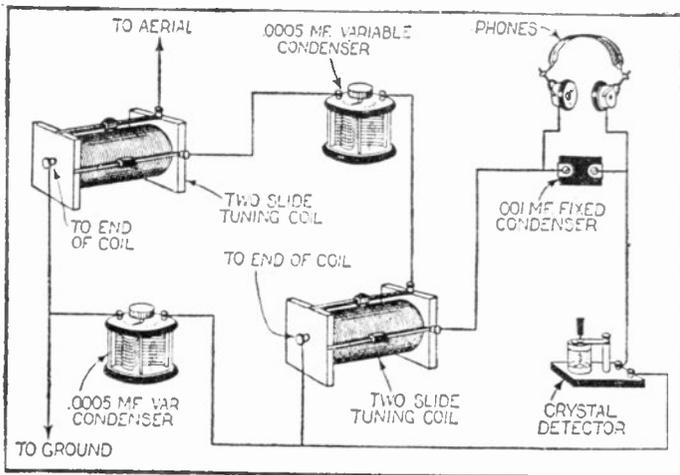

Fig. 309. The circuit diagram above shows a capacitively coupled tuner using a crystal detector for rectification. This circuit may be quite sharply tuned.
A. 1. You will find in Fig. 309